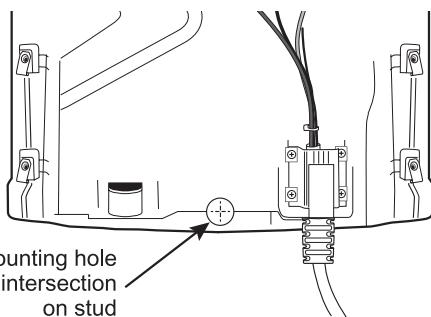

Figure 5
6. Draw a vertical line that intersects the horizontal line on the center of the stud. The intersection of these two lines will be the location of the bottom drill hole for mounting the charging station (Figure 5).